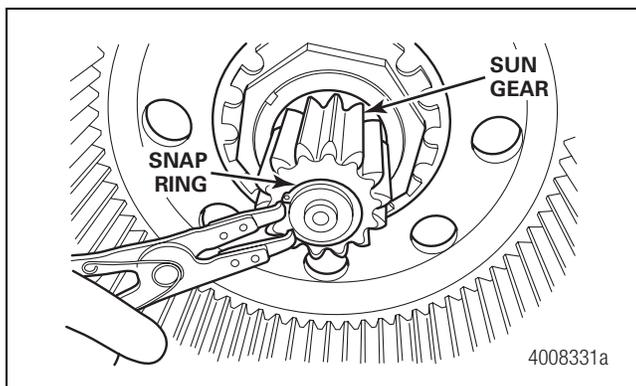

Figure 4.3
1. Remove the sun gear snap ring from the end of the axle shaft. Figure 4.3.